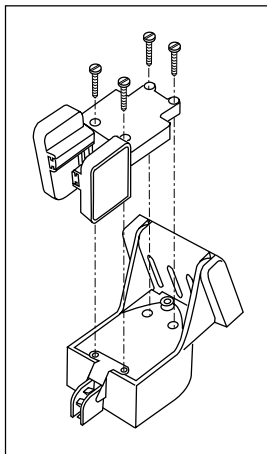

Fig. 2-7
2. The Sidelooker transducer is attached to the same mounting bracket used with the transom-mount transducer. See Fig. 2-7. Begin by installing the transom-mount bracket as described earlier.